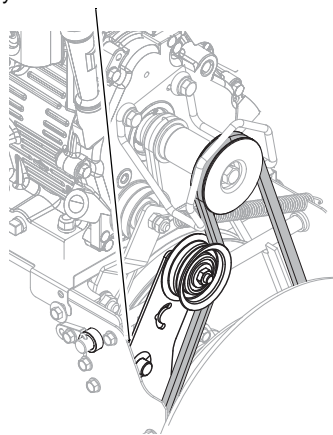

Figure 28
5. With the attachment clutch disengaged, check that the attachment idler arm lightly touches the frame (Figure 28).